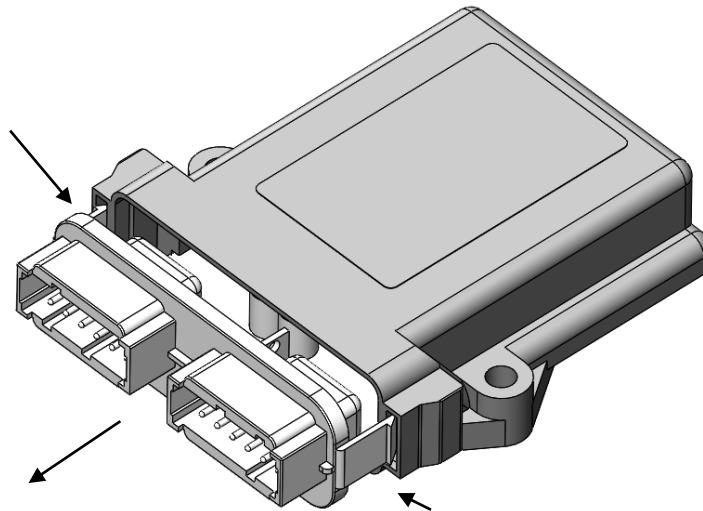

Figure 2: Remove the control board from its plastic housing by pressing in the tabs and pulling out.
- 8.3 Using a flathead screwdriver, remove the control board from its plastic housing. This is accomplished by pressing the tabs inward toward the control board with the screwdriver while gently pulling out (see Figure 2). Use caution in this step to avoid damaging the control module.